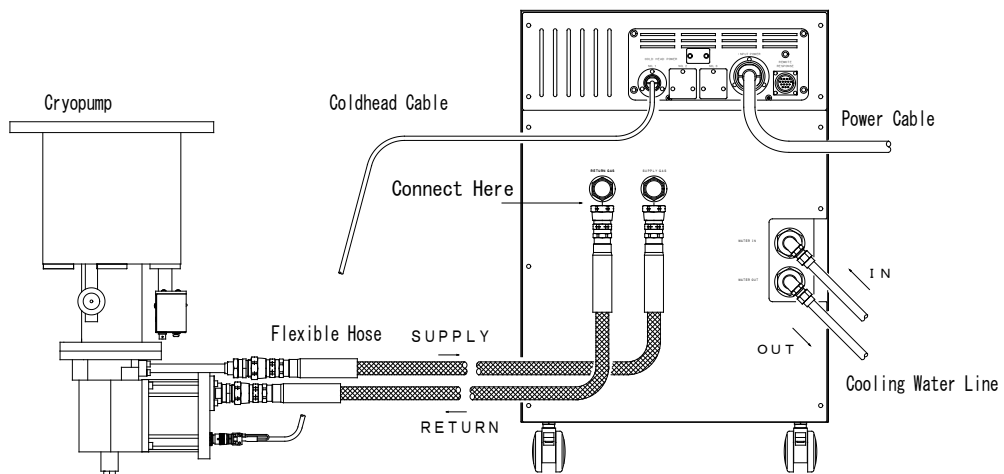

Figure 8-6 Connecting Flexible Hoses
11. Connect the SUPPLY and RETURN flexible hoses to the compressor unit again (See Figure 8-6)..